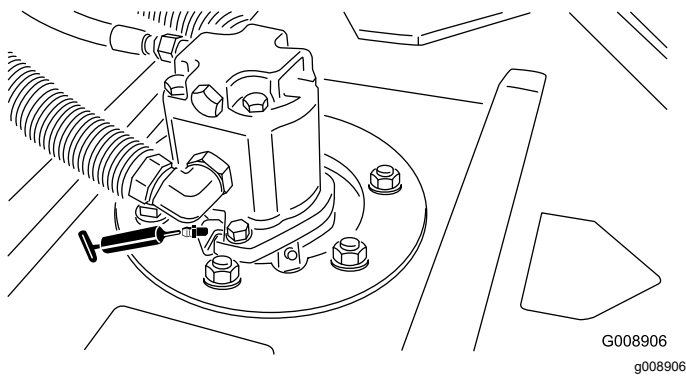

Figure 43
- 2 (per cutting unit) cutting unit spindle-shaft bearings (Figure 43)